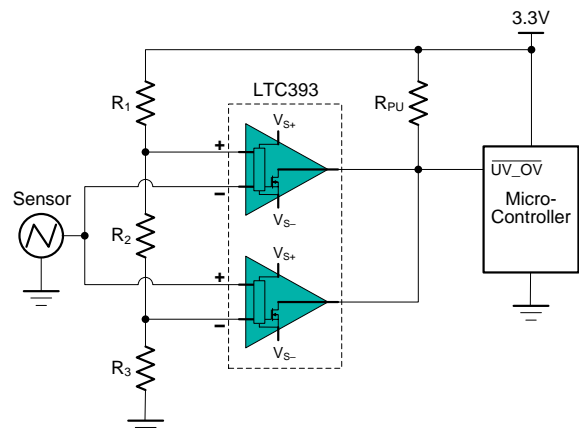

Figure 6. Window Comparator
Window comparators are commonly used to detect undervoltage (UV) and overvoltage (OV) conditions. Figure 6 shows a simple window comparator circuit.
Configure the circuit as shown in Figure 6. Connect  $V_{S+}$  to a 3.3-V power supply and  $V_{S-}$  to ground. Make  $R_1$ ,  $R_2$  and  $R_3$  each 10-M $\Omega$  resistors. These three resistors are used to create the positive and negative thresholds for the window comparator ( $V_{TH+}$  and  $V_{TH-}$ ). With each resistor being equal,  $V_{TH+}$  is 2.2V and  $V_{TH-}$